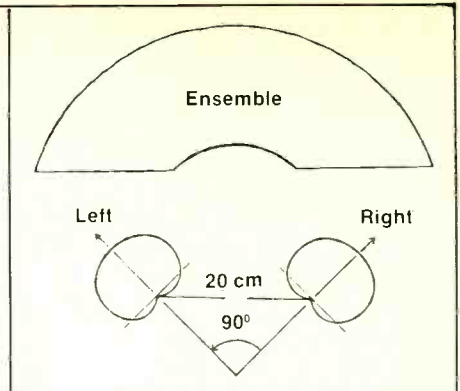

Figure 12: DIN
6. DIN (Figure 12) makes use of two cardioids spaced 20cm (7.8 inches) apart, and angled at a 90° angle¹⁰.